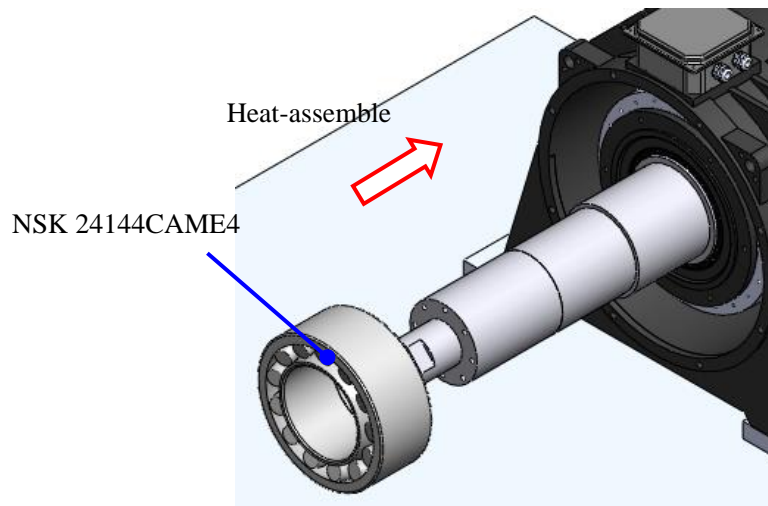

Figure 146: Install bearing
2. Heat the bearing (NSK 24144CAME4) to $80\pm 15^{\circ}\text{C}$ ($176\pm 59^{\circ}\text{F}$) with the bearing heater, then quickly install it on the main shaft. See Figure 146.